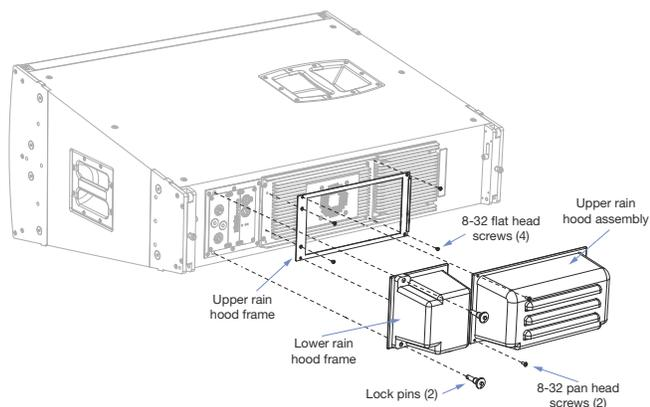

Figure 41: JM-1P Horizontal Rain Hood Installation
**NOTE:** The horizontal rain hood should only be used when the loudspeaker is oriented horizontally (see Figure 41).